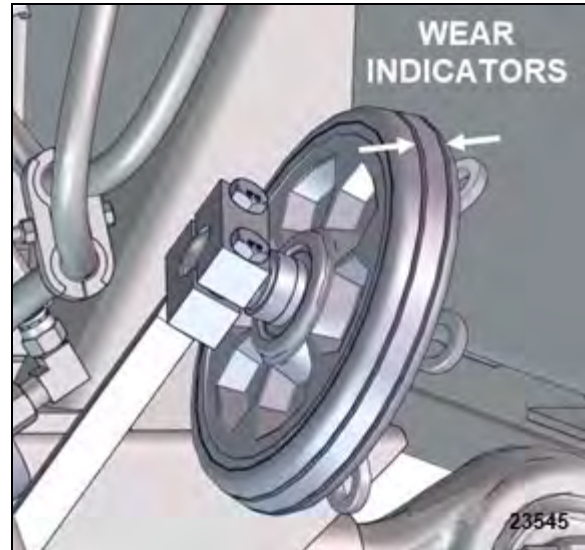

FIGURE 30: WEAR INDICATORS ON RUBBER CONTACT RING
- Replace wheel assembly when rubber ring indicators are fading out or if the wheel bearing is not spinning freely (FIGURE 30).